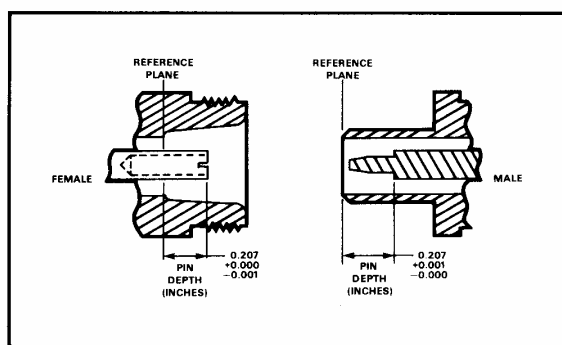

Figure 1-2. Reading N-Connector Pin Depth
- a. Beware of Destructive Pin Depth on Mating Connectors. Measure the pin depth (Figure 1-2) of the connector that mates with the RF component before mating. Based on RF components returned for repair, destructive pin depth on mating connectors is the major cause of failure in the field. When an RF component connector is mated with a connector having a destructive pin depth, damage will likely occur to the RF component connector. (A destructive pin depth has a center pin that is too long in respect to the connector's reference plane.)